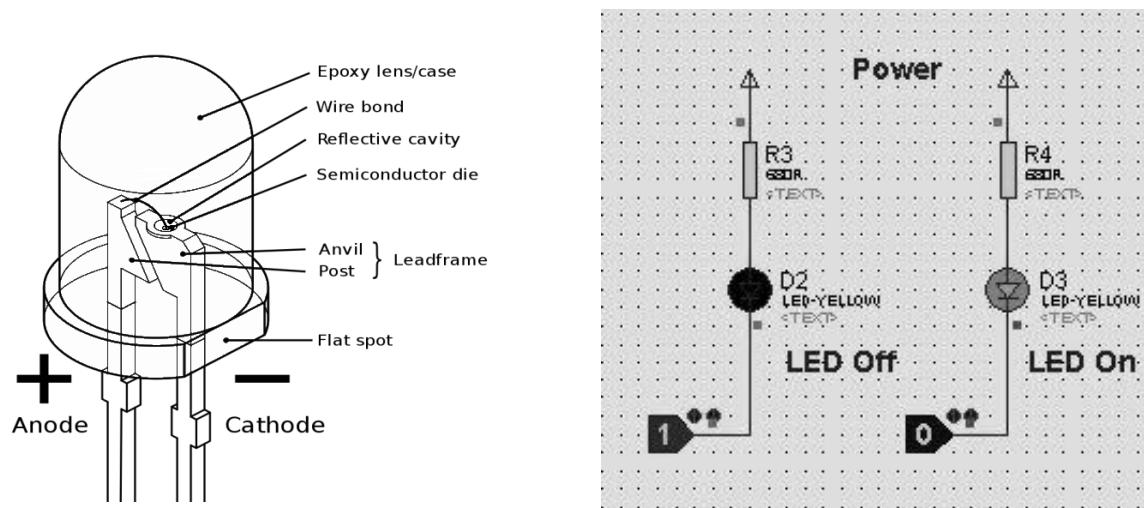

Figure 9.3 LED constructional diagram and its connections
**Light emitting diodes:** LED has two leads cathode and anode. The length of cathode leads is lesser than the length of anode but sometimes they come in equal size. When the length of both leads cathode and anode are equal in the size that time identification of anode and cathode can be done by observing their filament, the cathode has broader filament than the anode as shown in the Figure 9.3: